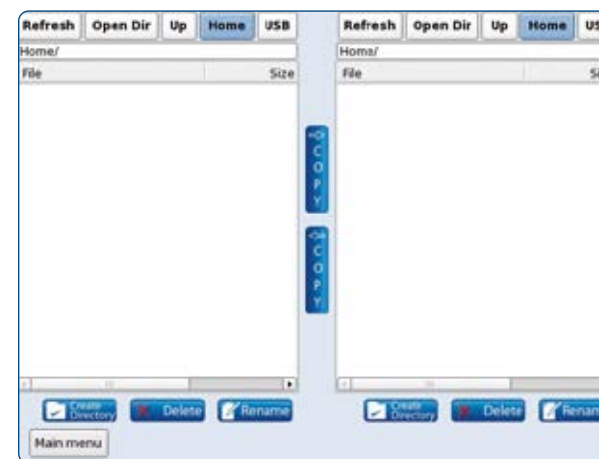

Figure 30: Explorer Menu.
1. Go to the Main Menu and press the Explorer Button (Figure 13). The Explorer (Figure 30) displays simultaneously two directories; the Arc View Controller Home per default. Select USB for the second directory.